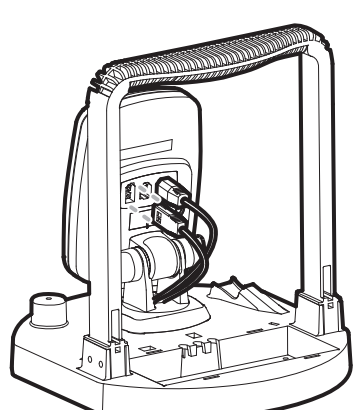

Figure 9
3. Connect the cables to the control head. The slots for the plugs are keyed to prevent reverse installation, and insertion should be easy. Do not force the connectors into the control head. (Figure 9)